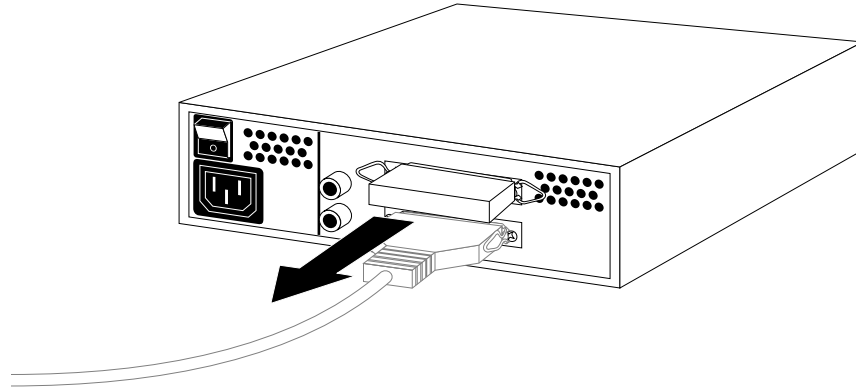

Figure 6-7 Removing the Terminator From the Last Device on the Daisy Chain
- If you are daisy-chaining a device to another device, remove the terminator from the connector on the last device in the chain by squeezing the clips on both sides of the terminator and pulling it off. See Figure 6-7.